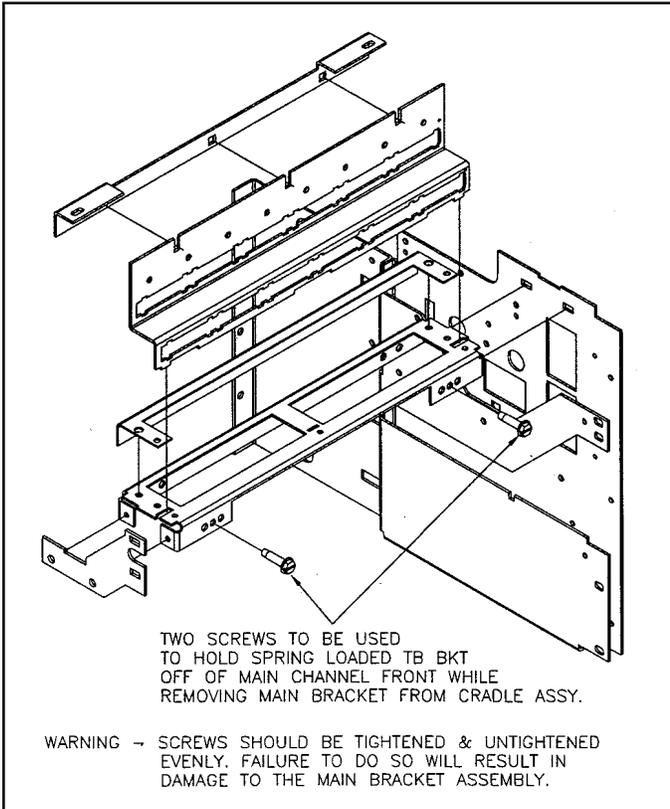
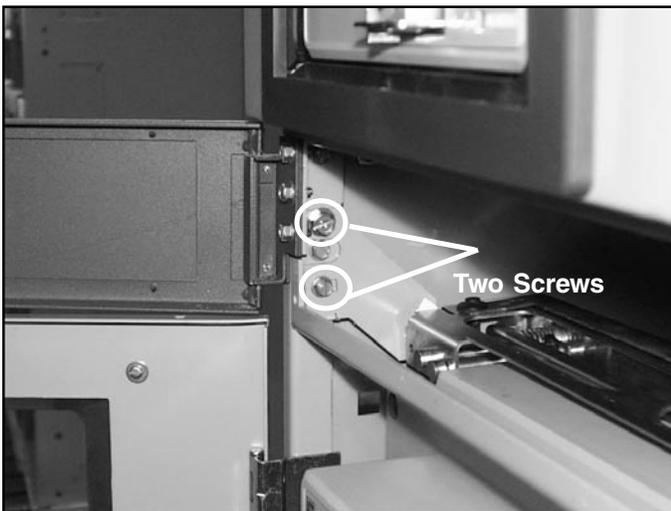

Figure 3-5.5B
Figure 3-5.5L
Step 5. Remove the main bracket assembly by compressing the spring-loaded terminal mounting channel by turning the screws shown in Figure 3-5.5B to the right until the breaker secondary terminals are completely disconnected. Then remove the four screws at the top of the breaker as shown in Figures 3-5.5L and 3-5.5R.